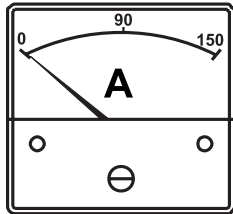

Figure 46. Ammeter (No Load)
6. The ammeter (Figure 46) will indicate **zero amps** with no load applied. When a load is applied, the ammeter will indicate the amount of current that the load is drawing from the generator.